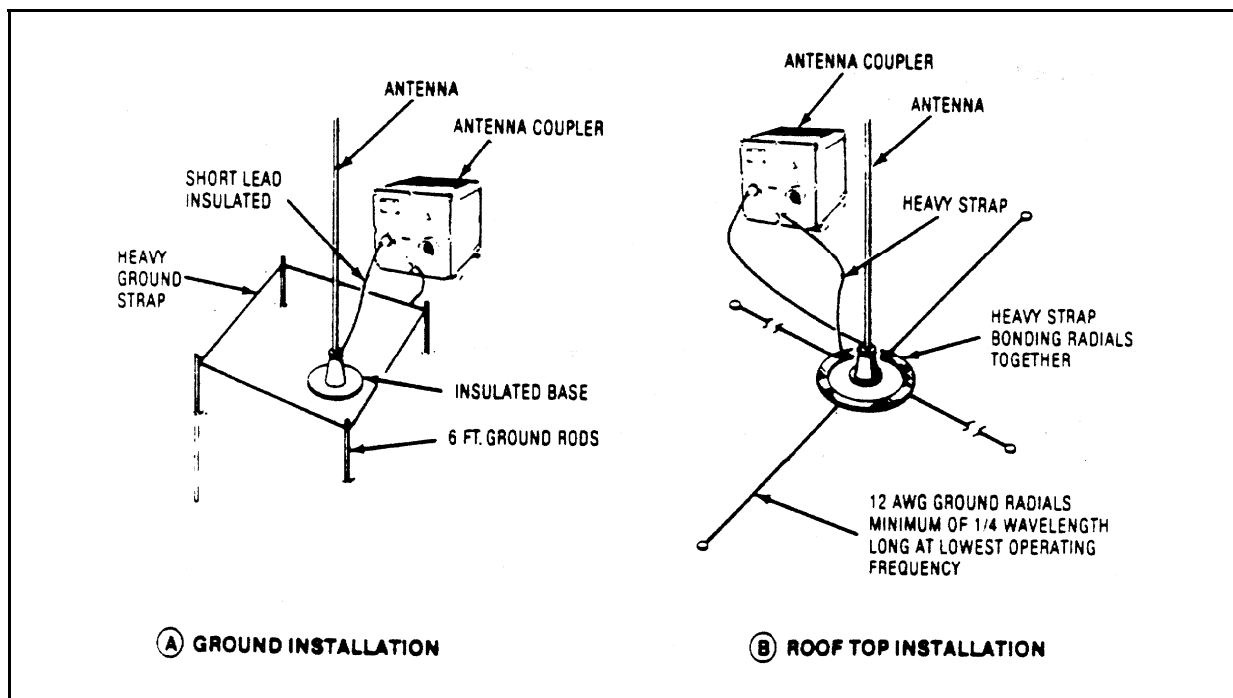

Figure 2.6 Whip Antenna.
- c) When using whip antennas, the ground system actually forms part of the radiating system. Where space permits (such as in a base station installation) a good ground plane or radial system should be installed at the base of the antenna. (See Figure 2.6)
Whips and longwires are popular non-resonant antennas. The whip antenna (illustrated in Figure 2.6), is often used in mobile, marine, portable or semi-portable installations because it is rugged and self-supporting. The antenna impedance is strongly dependent on the operating frequency, and an antenna coupler, therefore, must be used to match the antenna to the Transceiver/Exciter. Best radiation efficiency will be obtained if the antenna is at least $1/8$ wavelength long at the lowest operating frequency; however, this requirement does not result in a practical size antenna for low frequency operation. Thirty-five foot whip antennas offer a good compromise between practical height and good electrical performance at low frequencies. The antenna coupler is designed to efficiently match whip antennas of 15 foot length or greater. An efficient match may also be obtained for a 9 foot whip above 4 MHz. The whip's performance is greatly influenced by its ground system. For temporary base station installations, a minimum of four six-foot long ground rods should be driven into the ground symmetrically placed around the antenna base. The rods should be bonded together with heavy strap and then connected to the antenna coupler ground by another short heavy strap. If the antenna is mounted on the roof of a building where a short ground lead to coupler cannot be obtained, a minimum of four symmetrically placed ground radials should be installed at the base of the antenna, bonded together, and connected to the antenna coupler ground post. The radials should be made of number 12 gauge wire or larger and should be at least $1/4$ wave long at the lowest operating frequency. (Radial length in feet = $246/\text{frequency in MHz}$.) The whip's radiation pattern is omni-directional in the azimuthal plane.